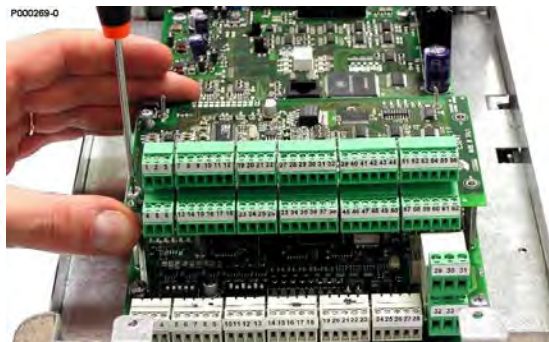

Figure 167: Fitting the strips inside ES847 board and fixing the board on slot C
3. Insert the two contact strips supplied in the bottom part of ES847 board; make sure that each contact enters its slot in the connector. Insert ES847 board over the control board of the PENTA inverter; make sure that each contact enters its slot in the signal connector. Use the screws supplied to fasten board ES847 to the fixing spacers (Figure 167).